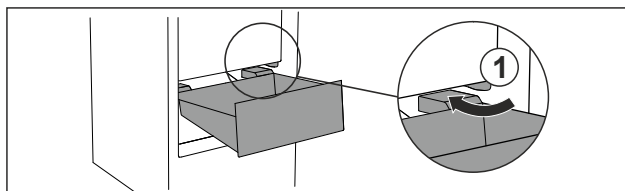

Fig. 60
- Guide drawer in at an angle around the stoppers Fig. 60 (1).